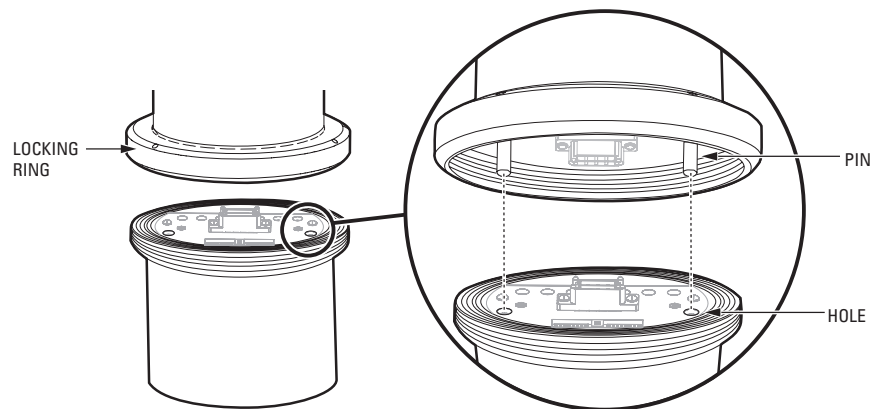

Figure 10. Attach the Enclosure Unit to the Power Module
2. Refer to Figure 10 and attach the enclosure unit to the power module. Align the pins of the enclosure unit with the holes of the power module. Carefully mate the enclosure connector to the power module connector.